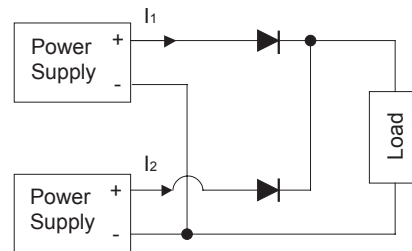

Fig.5.2 Parallel redundancy operation
■ Parallel redundancy operation is available by connecting the units as shown Fig.5.2.